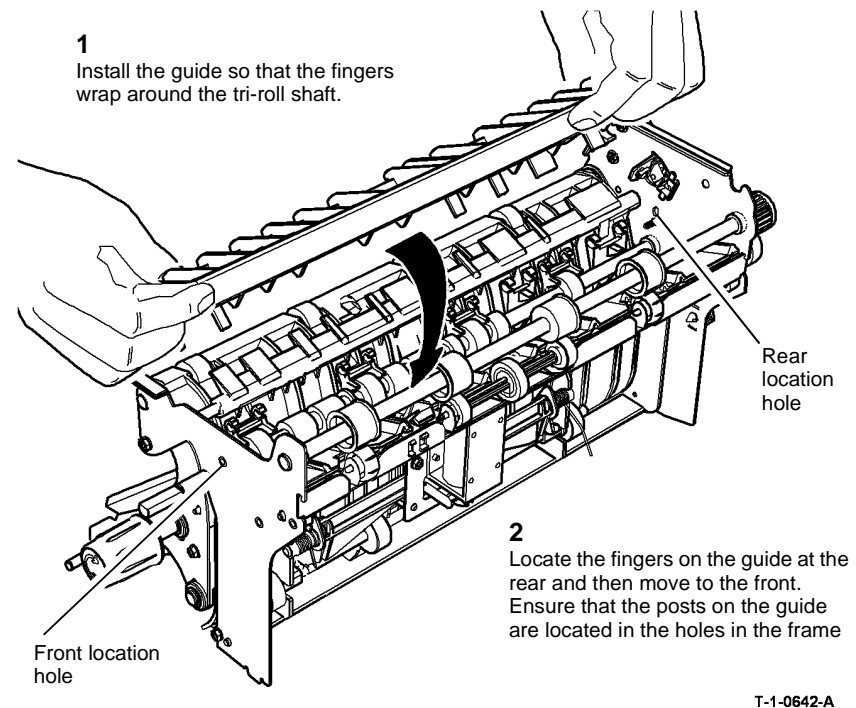

Figure 6 Install tri-roll guide
- b. Tri-roll guide. The guide locates on the tri-roll shaft in front of the bearing. Locate the post on the tri-roll guide into the location holes in the front and rear frame. Figure 6.
- iii. Ensure the nip roll guide is located correctly, REP 10.2 and refer to Figure 6.